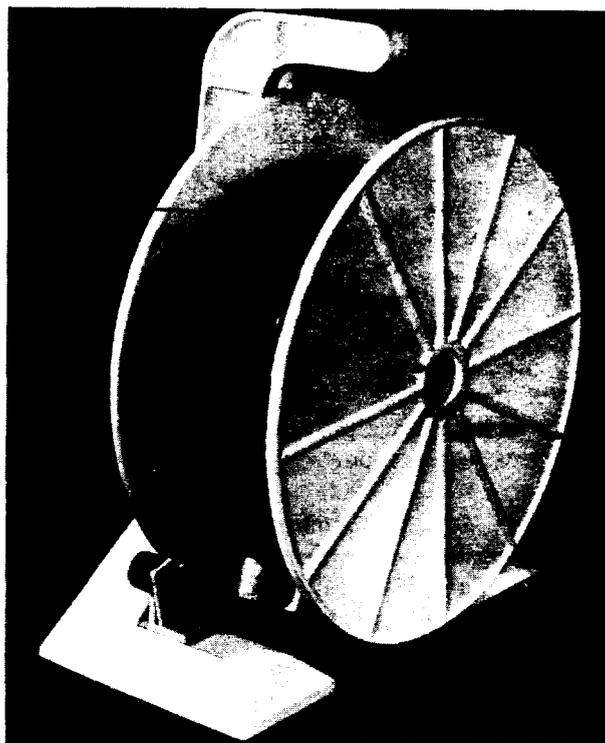
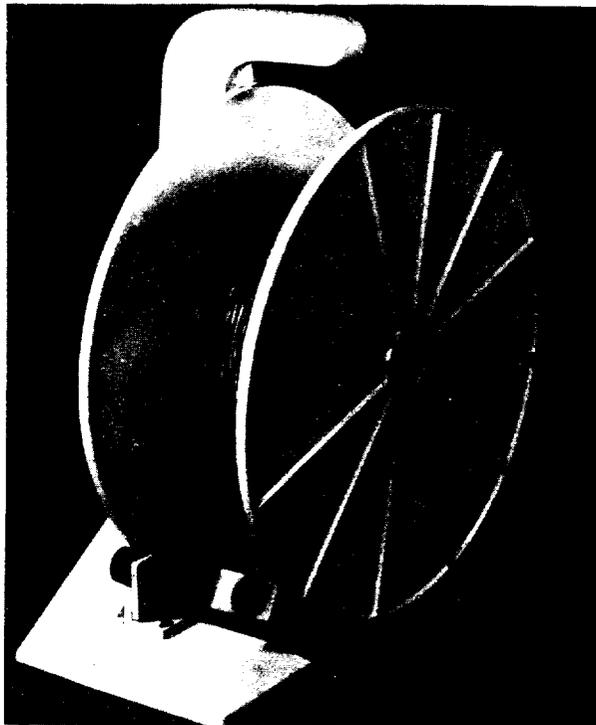

Fig. 1—KS-21955 Wire Reel
Fig. 3—KS-21955 Wire Reel With Brake Engaged
1.01 This section covers the piece-part data for the KS-21955 wire reel (Fig. 1) and the approved procedures for replacement of parts. The KS-21955 wire reel was designed to improve wire dispensing operations in telephone central offices. It is a direct replacement for the KS-8047 wire reel.
3.04 To install wire on the KS-21955 wire reel, remove the outer flange by turning it clockwise. Place a coil of wire over the tapered ribs on the inner flange and replace the outer flange by turning it counterclockwise until it is tight. Insert the end of the wire through the wire guide on the brake without changing direction. Wire may be dispensed in either of two directions, over the reel to the left or under the reel to the right. As wire is withdrawn, the brake releases, and the reel turns counterclockwise as shown in Fig. 1. Slack in the wire causes the brake to activate as the brake arm drops and engages the rim of the inner flange as shown in Fig. 3. The momentum of the inner flange forces the brake shoe in the direction of rotation, which causes a wedging action between the brake and the inner flange resulting in the stopping of the reel. Since the outer flange is independent, it tends to continue rotating in a counterclockwise direction, thereby tightening the wire coil. This self-tensioning feature maintains pressure on the wire coil as it is used and prevents entanglement otherwise caused by loose wire coils.